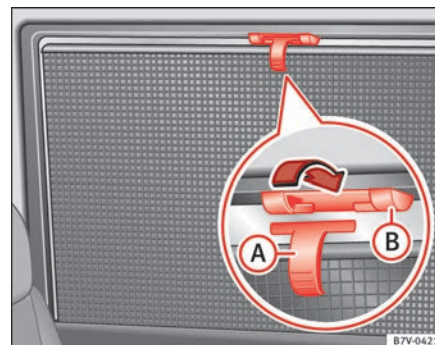

Fig. 65 On the rear right-hand window: sun blind.
- Pull the sun blind by the handle ⇒ fig. 65 **A** up to the top.